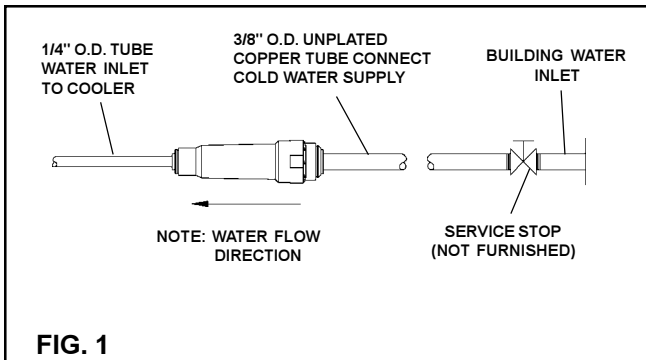

FIG. 1
8. **Connect refrigeration package to supply line** with a shut off valve and install a 3/8" unplated copper water line between the valve and the cooler. Remove burrs from outside of water line. Insert water line straight into fittings until they reach a positive stop, approximately 3/4" (19mm). (See Fig. 1 and 2) **DO NOT SOLDER TUBES INSERTED INTO THE STRAINER AS DAMAGE TO THE O-RINGS MAY RESULT.**
16. **Replace access panel and install grill** using (2) #8 x 1.00" (25mm) PH screws and (2) small clips provided.